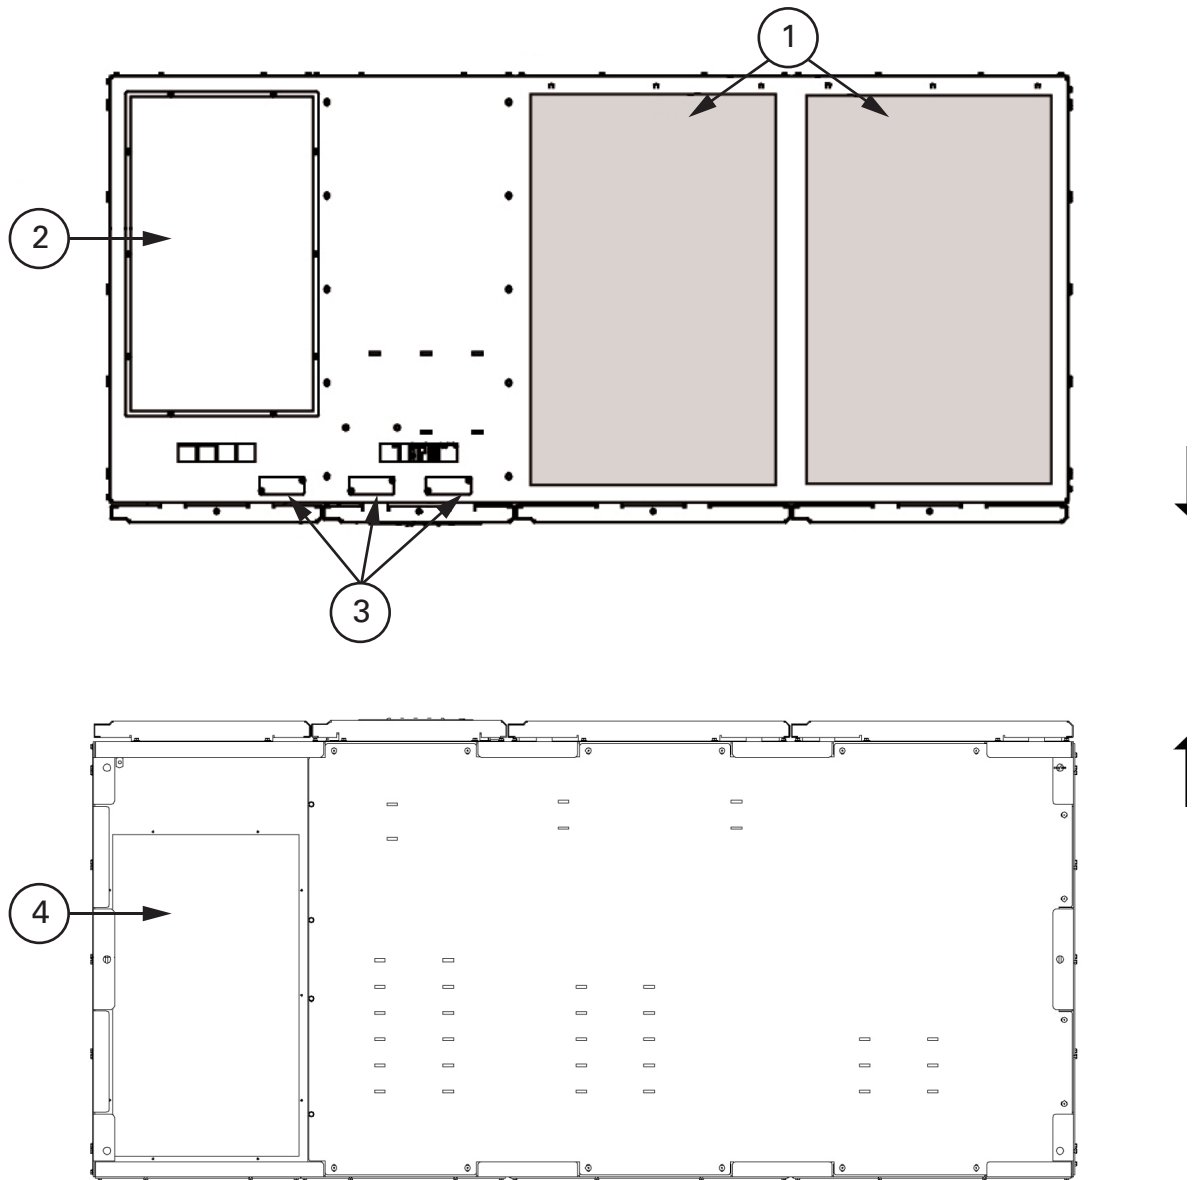
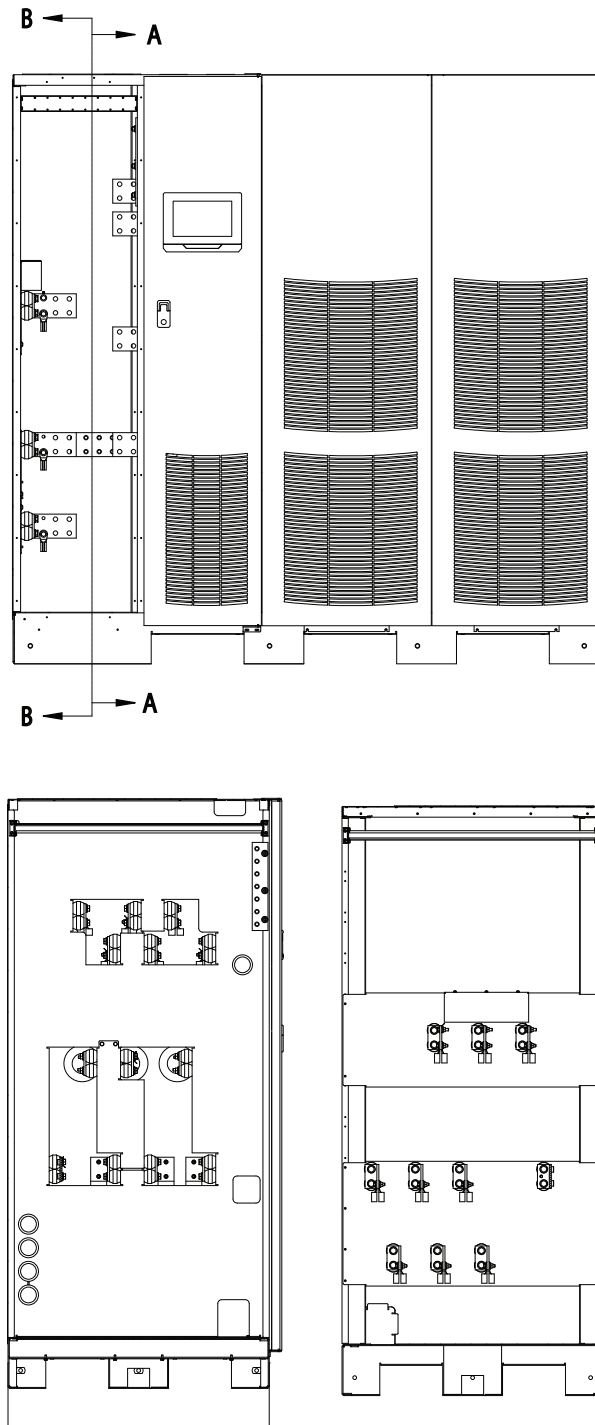

Figure 4-4. Conduit and wire entry locations
Figure 4-6. UPS power terminal locations - separate rectifier feed
Remove the UPS cabinet top or bottom conduit landing plate to drill or punch conduit holes (see Figure 4-4).
1. Remove one top screw and two bottom screws securing the UPS left front panel (see Figure 4-4 on page 35). Lift the panel straight up to remove from the panel hanger bracket at the top of the cabinet.
2. Route the input and output cables through either the top or bottom of the cabinet to the UPS terminals. See Figure 4-4 through Figure 4-9 for wiring access information and common rectifier feed terminal locations or Figure 4-6 for separate rectifier feed terminal locations.
2. Route and connect the battery cables between the UPS and the battery cabinets in accordance with the instructions in the Eaton 9395P Integrated Battery Cabinet (Model IBC-L) installation manual. See Figure 4-4 through Figure 4-9 for wiring access information and terminal locations.
5. Route and connect the battery cables between the UPS and the battery system. See Figure 4-4 through Figure 4-6 for wiring access information and terminal locations.
5. Remove the UPS cabinet top interface entry plates to drill or punch holes (see Figure 4-4 on page 36).